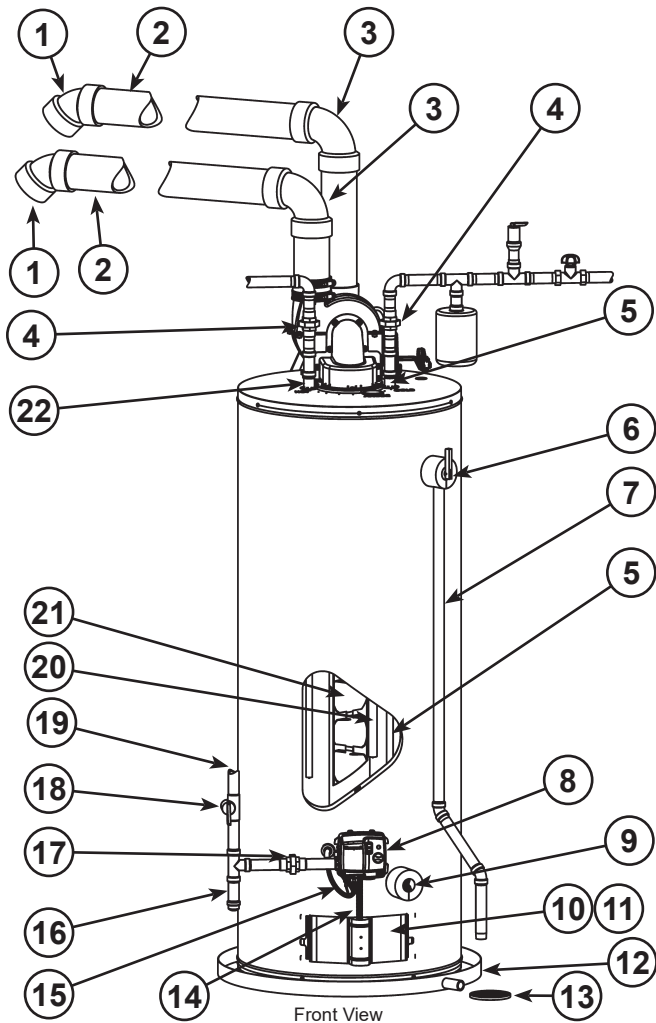

Figure 1.
This feature is a part of the gas control valve/thermostat (see Figure 1, item 8) and limits the maximum water temperature. In the event of the water overheating, this safety feature shuts off the fuel supply to the burner.